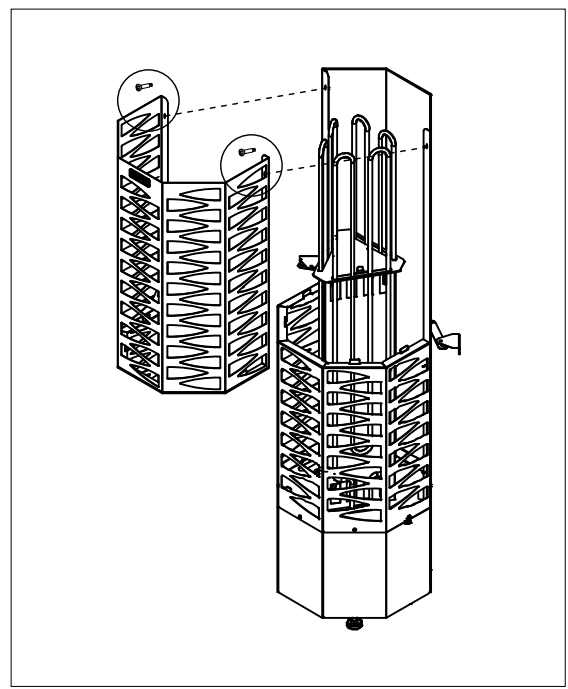

Figure 15. Outer jacket installation
- The heater casing is two-part to facilitate the placement of stones. The upper casing can be removed when installing stones in the lower part of the heater (see Figure 15).